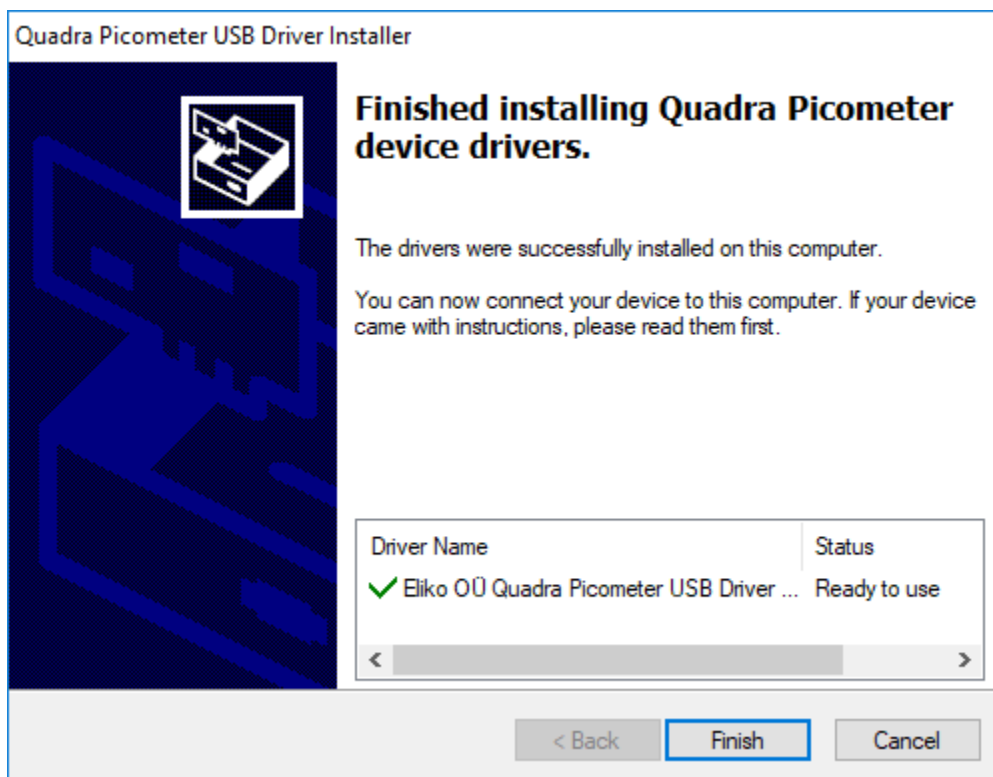

Figure 5 Driver installation confirmation dialog
4. If driver installation was successful, the confirmation dialog (**Figure 5**) will appear. Click *Finish* to close driver installation application. Now the device can be connected to the PC. After connecting the device for the first time, Windows will finish up driver installation.